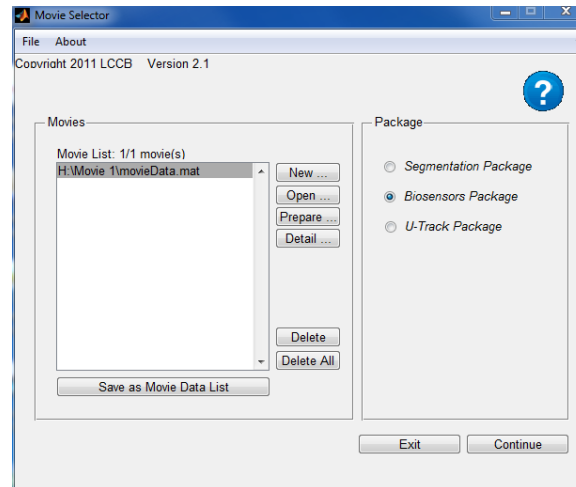

Figure 3: Movie selector
Before you can begin processing your data, you need to tell the software where the data is. This is done using the “Movie Selector.” To start, either type “movieSelectorGUI” or “biosensorsPackageGUI” at the Matlab command line. The movie selector should open in a new window (Fig. 3).
- 1) Click the “New” button to create new “movie data” (Figure 3: Movie selector). The movie creation window should pop-up:
- 1) Select “Prepare” from the movie selector (Figure 3: Movie selector): the data preparation window should pop-up: